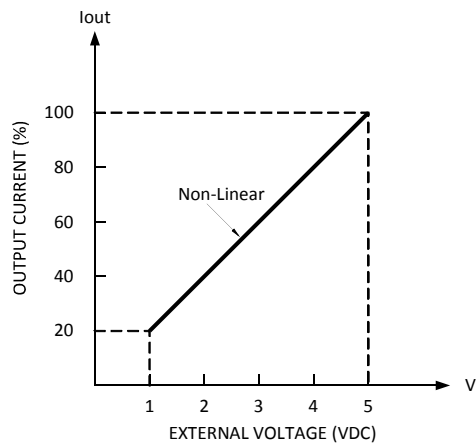

Fig 4.2
- (c) Trimming of output current is allowed between 20~100%(Typ.) of the rated output current as shown in Fig 4.2.